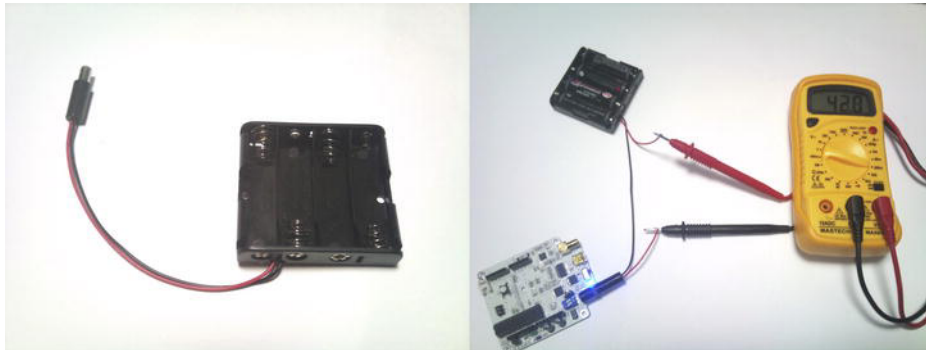

Figure 3-8. Left: Unmodified 5-volt battery pack with barrel jack; right: cutting into the cable to insert a current meter.
4. Refer to Figure 3-8 (right). Load up the battery pack, plug it into the Arduino, and touch the two red wires together, completing the circuit from the positive terminal of the battery pack to the center hole on the plug. The Arduino should power up and get to work.